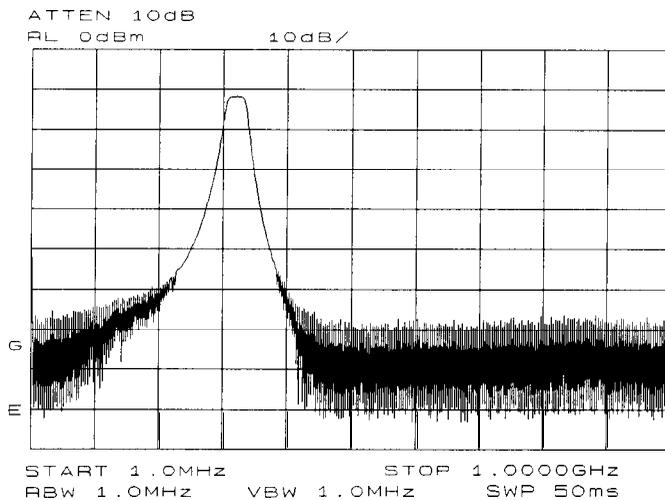

Figure 2-32.
- Because we are interested only in bandpass-filter rejection, tune the center frequency so the filter roll off takes up most of the trace on the display (see Figure 2-32).